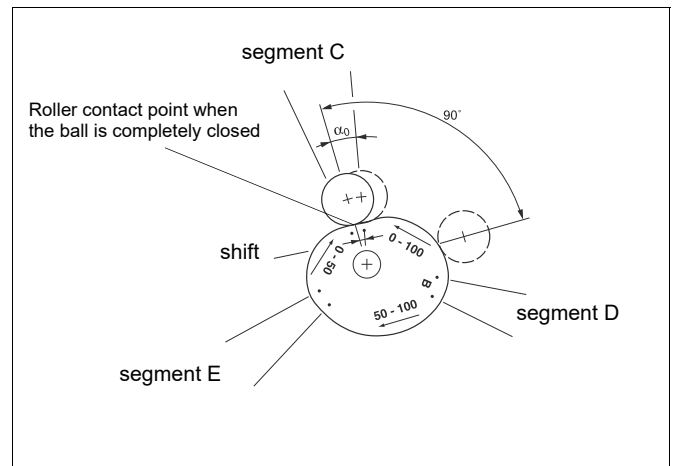

Fig. 11 Shift on circumference of cam equal to dead angle
Table 3 shows the shift on the circumference of the cam equal to the "dead angle" of the valve, Figure 11, in various cam segments (C, E, D). Please note the procedures in Chapter 4 before the adjustment.
1. Mark the shift in question on the edge of the cam, Fig. 11 and Table 3. Dimensions do not have to be measured if the dead angle can be reliably noticed from position of the closing member.
2. Lock the cam so that the roller touches the edge of the cam plate at the mark. Tighten the locking wheel (30) and the screw (31).
3. Switch on the supply pressure (S) and the input signal (IN).